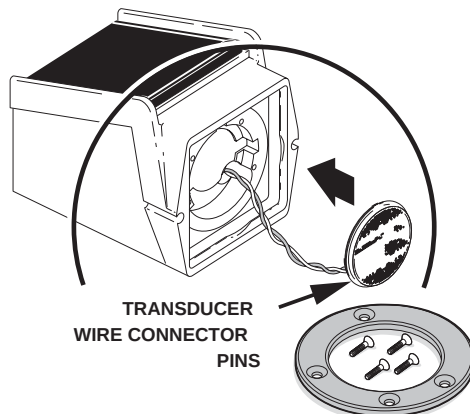

Figure 11-15. Replace Wires, Transducer, and “O”-ring
5. “Feed” the wires back up into the Sonic Tracker II and seat the Transducer into place (the two wire tabs have to sit down into the extra deep area of the recess). Place the new “O”-ring around the Transducer and seat firmly between the Transducer and the Sonic Tracker II Transducer recess (Figure 11-15 on page 11-15)